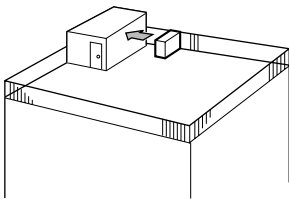

Fig. 2-1
- Face the air outlet towards the nearest available wall about 50 cm away from the wall. (Fig. 2-1)